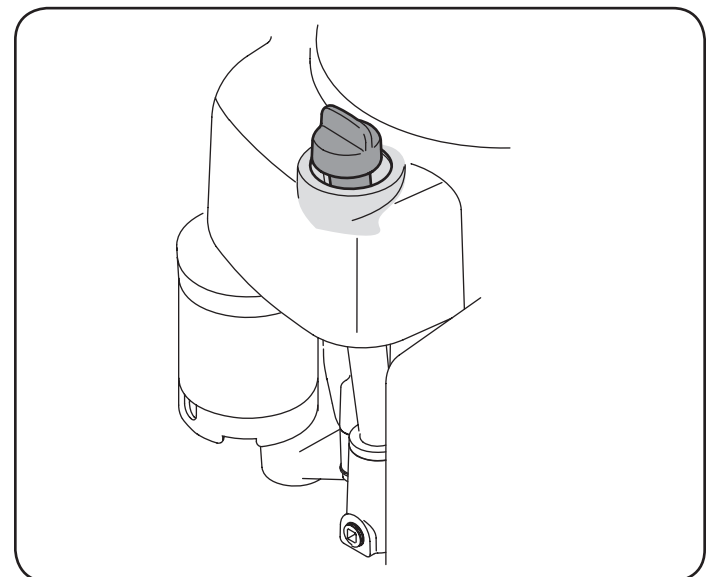

Figure 6
1. Wipe around dipstick cap and tube with a clean cloth to remove any debris. See "Figure 6".